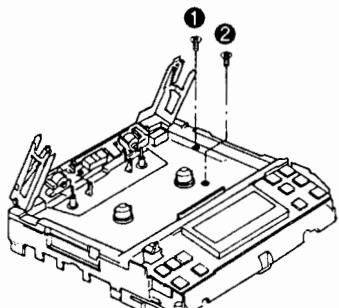

Fig. 1
2. Remove the 2 screws(①, ②). (Refer to Fig. 1.)